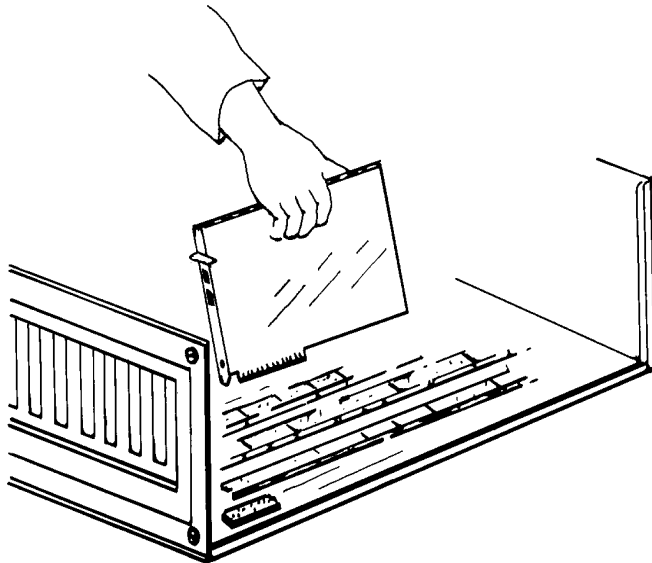

FIGURE 5
- Place the Tran-x LPT-460 card in the slot, slide it down until the bus connector on the card enters the slot connector. Press carefully on the top edge of the card until it is completely seated in the slot connector (see *Figure 5*).